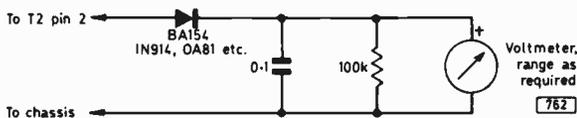

Fig. 1: Diode probe for setting L3.
- (1) Check with a multimeter that the +20V and -8V supplies are present.
- (2) Connect the negative lead of the multimeter to the a.c.c. output terminal 1C, positive lead to chassis.
- (3) Screw the core into L5 until the first peak in the a.c.c. voltage is reached.
- (4) Further peak up the reading by adjusting L1 and the i.f. strip chroma output coil L121 (unless the i.f. strip has been through the Alignment Service). Recheck the setting of L5. The reading should now be in the region of -10V.
- (5) Disable the colour killer by connecting a shorting link across D8. This should result in some sort of colour (no doubt completely incoherent) on the screen. If not, then probably the adjustment of L3 is so far out that no reference signal is being obtained. Roughly set L3 to give some sort of output.
- (6) Connect a shorting link across R19 (6.8k Ω) to disable the reference oscillator.
- (7) Connect the multimeter from Tr3 collector to chassis. Adjust R11 (a.p.c. bias) to give a reading of +6V.
- (8) Remove the link across R19. Adjustment of C14 should now enable a lock to be obtained so that the colour is not divided into broad horizontal bands but is steady although it will still have considerable patterning on it.
- (9) Having obtained a lock, finally set C14 to again give a +6V meter reading. If no lock can be obtained go on to step (10) and then try again.
- (10) We now need to adjust L3 for maximum output from the oscillator. For this we need a diode probe—a suitable circuit is shown in Fig. 1. Connect the
The 405/625 system switch is operated by solenoid coils which are brought into circuit by the station selection switch. Turning to the u.h.f. position energises a coil momentarily so that the system switch slides across to the appropriate setting. Reverting to a v.h.f. channel activates the second coil on the solenoid, the system switch then returning to the 405 position. The solenoid unit is protected by the fuse-link resistor R123. If this fuse opens the a.c. mains input to the receiver is removed (see circuit diagram, Fig. 1, pages 120-1).